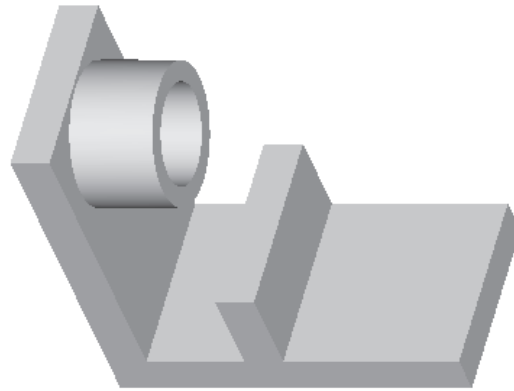

Figure 5-56 Model with the hole feature
- Create the hole on the cylindrical feature using the **HOLE** dialog box, see Figure 5-56.
with the hole feature is shown in Figure 5-56.